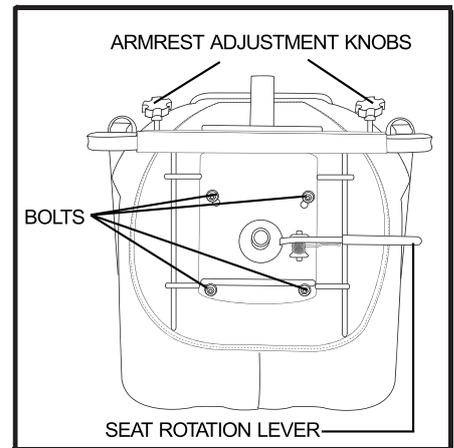

Figure 15. Seat Adjustments
1. Pull up on the seat rotation lever to disengage the seat. See **figure 15**.
1. Loosen the armrest adjustment knobs at the back of the seat frame. See **figure 15**.